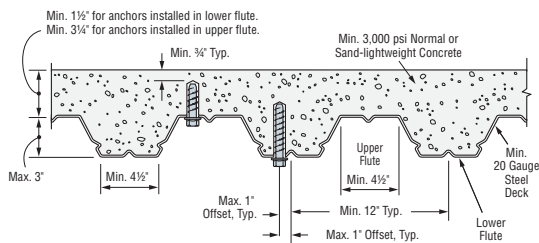

Figure 1. Installation of 3/8" and 1/2" Diameter Anchors in the Soffit of Concrete over Metal Deck
- For anchors installed in the soffit of sand-lightweight or normal-weight concrete over metal deck floor and roof assemblies, as shown in Figure 1 and Figure 2, calculation of the concrete breakout strength may be omitted.